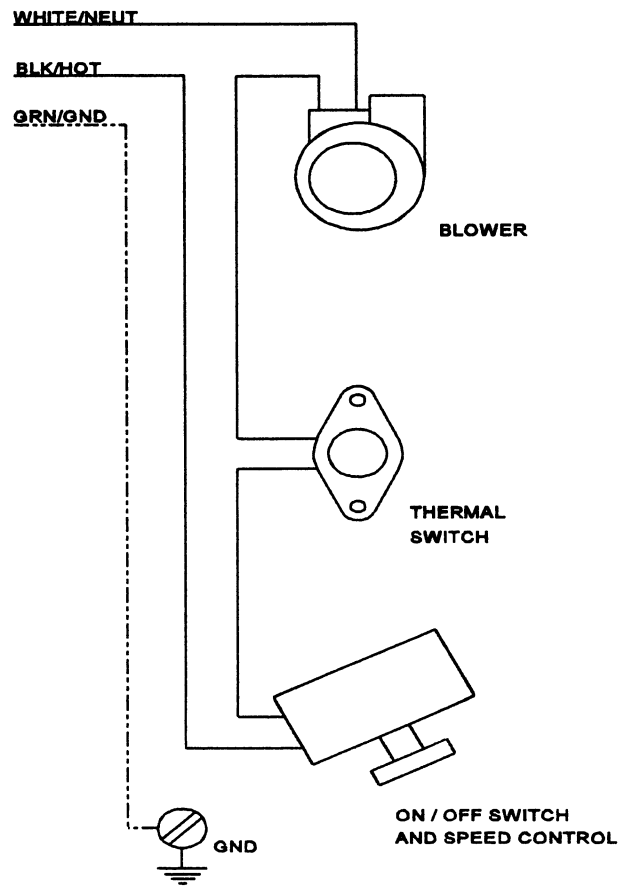

Figure 17
6. See Figure 17 for fan electrical schematic.